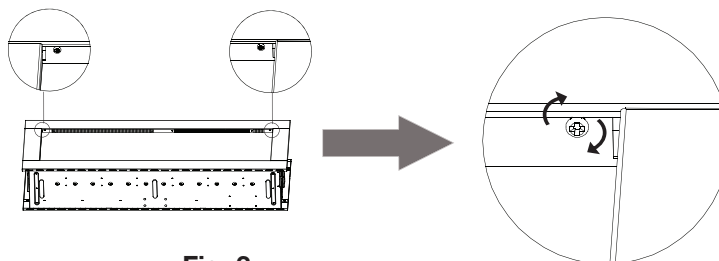

Fig. 3
- Secure trims by tightening the securing fasteners (**Fig. 3**).